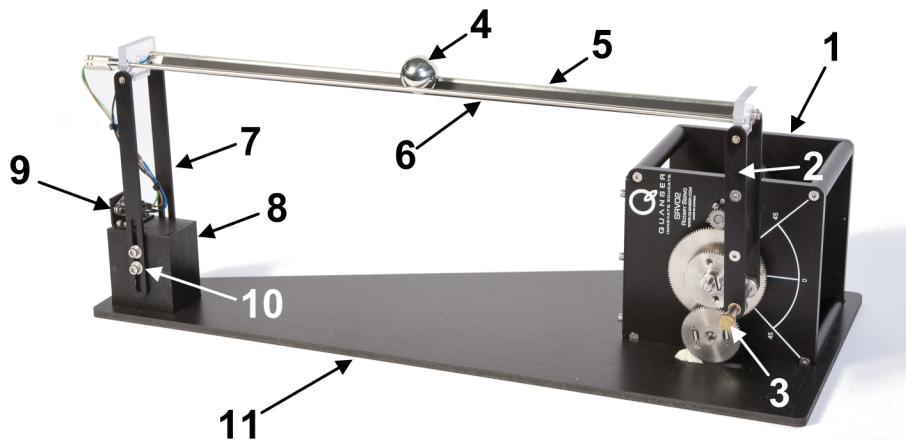
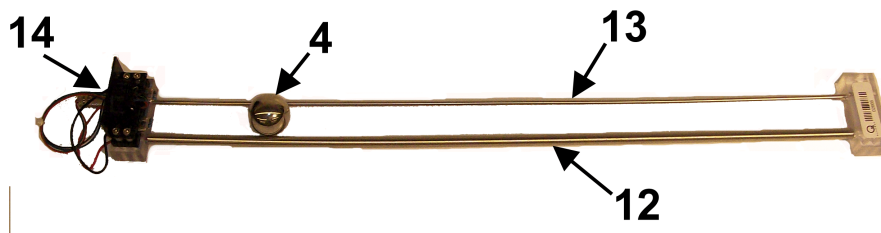
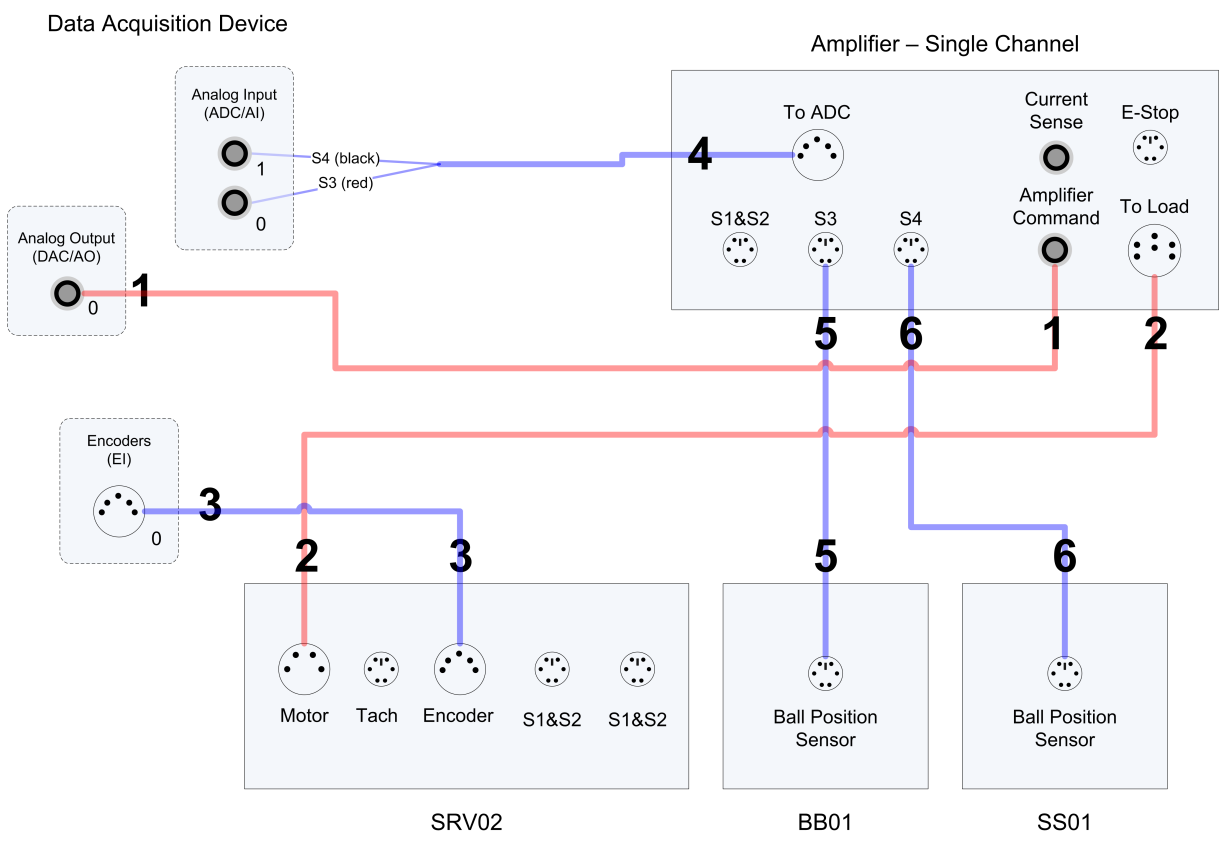

Figure 2.1: Components on Ball and Beam system
Figure 2.2: Components on Remote Sensor system
Figure 5.1: BB01 connections using generic DAQ with a single-channel amplifier
The components of the Ball and Beam module, i.e., the BB01 device, and the Remote Sensor system, i.e., SS01, are listed in Table 2.1 and labeled in Figure 2.1 and Figure 2.2.
2. Lay the calibration base, component #11 in Figure 2.1, flat on a table surface.
This section describes the typical connections used to connect the SRV02 plant to a data-acquisition board and a single-channel power amplifier. The connections are given in Table 5.2 and illustrated in Figure 5.1. The detailed wiring procedure is given below as well.
Note: The data acquisition (DAQ) device used in Figure 5.1 is representative for any DAQ device.
3. Connect one end of the 2xRCA to 2xRCA cable from the Analog Output Channel #0 on the terminal board to the *Amplifier Command* connector on the amplifier, i.e. use both white or both red RCA connectors. See cable #1 shown in Figure 5.1. This carries the attenuated motor voltage control signal, V_m/K_a , where K_a is the amplifier gain.
4. Connect the 4-pin-stereo-DIN to 6-pin-stereo-DIN cable from *To Load* connector on the amplifier to the *Motor* connector on the SRV02. See connection #2 shown in Figure 5.1. The cable transmits the amplified voltage that is applied to the SRV02 motor and is denoted V_m .
5. Connect the 5-pin-stereo-DIN to 5-pin-stereo-DIN cable from the *Encoder* connector on the SRV02 panel to Encoder Input # 0 on the terminal board, as depicted by connection #3 in Figure 5.1. This carries the load shaft angle measurement and is denoted by the variable θ_l .
7. Connect the *Ball Position Sensor* connector from the BB01 to the S3 socket on the amplifier using the 6-pin-mini-DIN to 6-pin-mini-DIN cable. See connection #5 in Figure 5.1. This carries the the measured ball position from the beam potentiometer and is denoted by variable x .
8. If the SS01 remote sensor module (shown in Figure 2.2) is used, then connect *Remote Ball Position Sensor* connector from the SS01 remote sensor module to the S4 socket on the amplifier using the 6-pin-mini-DIN to 6-pin-mini-DIN cable. See connection #6 in Figure 5.1. This measures the ball position on the remote sensor and is denoted by x_d .